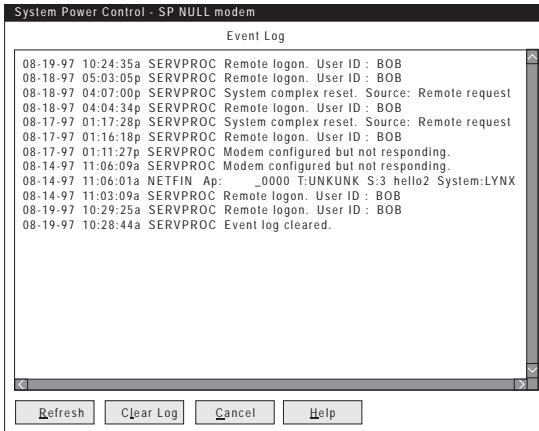

Figure 5. The System Management Subsystem Logs window
**Event Log:** Use Event Log to open the System Management Subsystem Logs window (shown in Figure 5). This window contains all entries that are currently stored in the system management subsystem event log. Information about all remote access attempts and dialout events that have occurred is recorded in the system management subsystem event log.